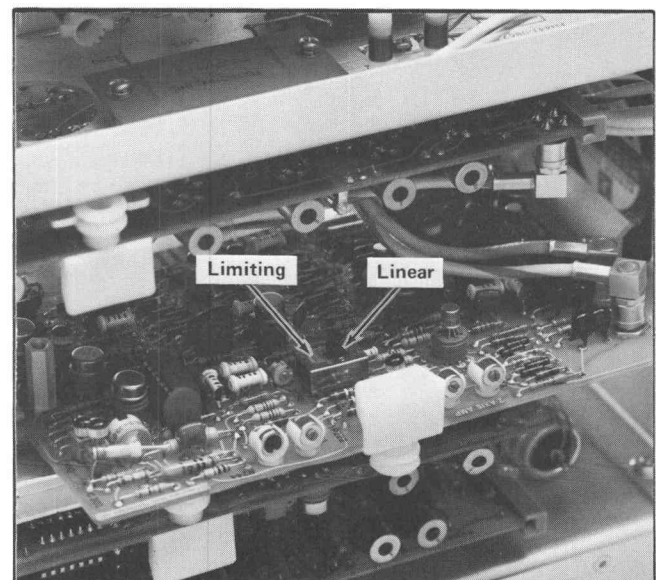

Fig. 5-12. Location of Linear/Limiting switch.
b. Disconnect all signals into the Type 4501. Set the Type 4501 MODE switch to WRITE ONLY, the STORE/NON-STORE switch to NON-STORE. Set the Limiting switch (internal switch located on the Z-axis board, See Fig. 5-12) to the Linear mode.
b. Switch the Linear/Limiting switch (see Fig. 5-12) located on the Z axis amplifier board to the Limiting position.